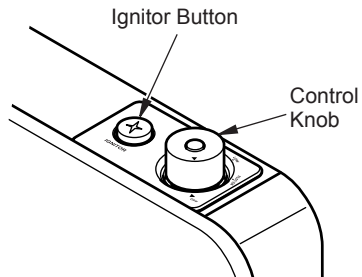

Figure 21 - Control Knob in the OFF Position
4. Wait five (5) minutes to clear out any air. Then smell for gas, including near the floor. If you smell gas, STOP! Follow "B" in the safety information above. If you do not smell gas, go to the next step.
5. Turn control knob counterclockwise ↻ to the PILOT position. Press in control knob for five (5) seconds (see Figure 21).